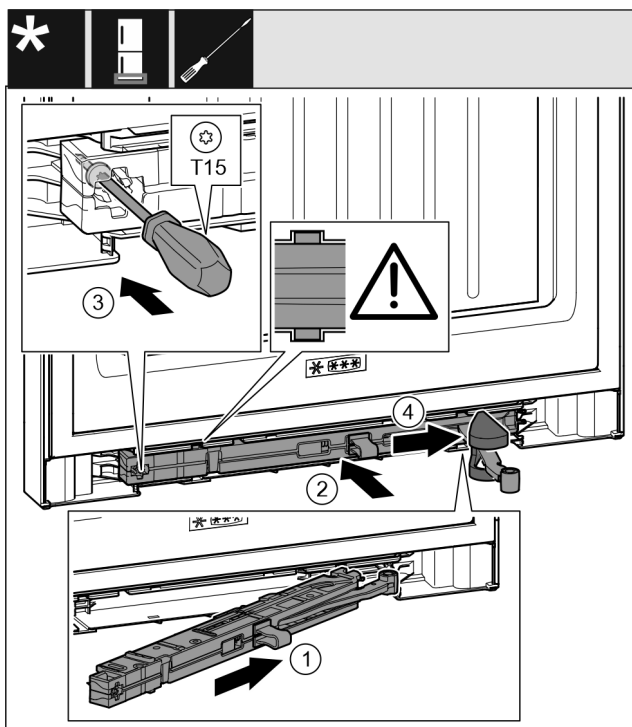

Fig. 66
- ▶ On the swap bearing block side, slide the closing damper unit Fig. 66 (1) into the recess at an angle up to the stop.
- ▶ Push the closing damper unit Fig. 66 (2) into the recess completely.
- ▶ Use a screwdriver to tighten the screw Fig. 66 (3).
- ▶ Push the cover Fig. 66 (4) over the joint.